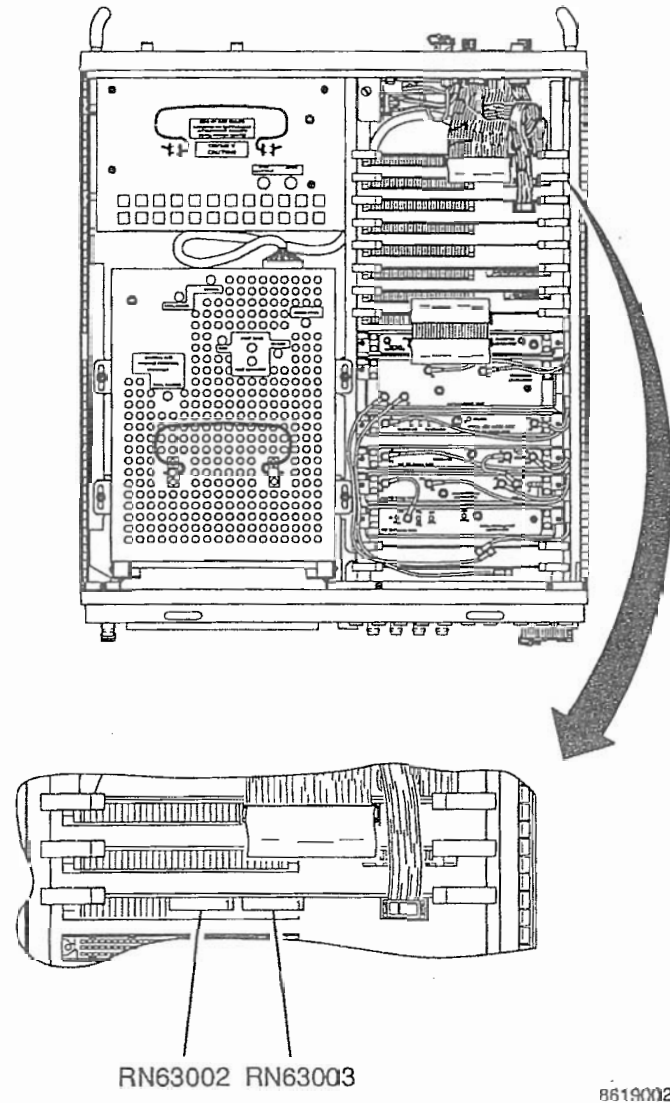

Figure 3-3 Processor PC Board Assembly Test Points
FIGURE REFERENCES: Figure 3-3
1.	Apply power to FM/AM-1600S. Allow 5 minute warm-up period. Insure IFR Logo Menu, with no error message, is displayed on CRT (26).
3.	Connect DMM positive lead to RN63002, Pin 1 (Figure 3-3).